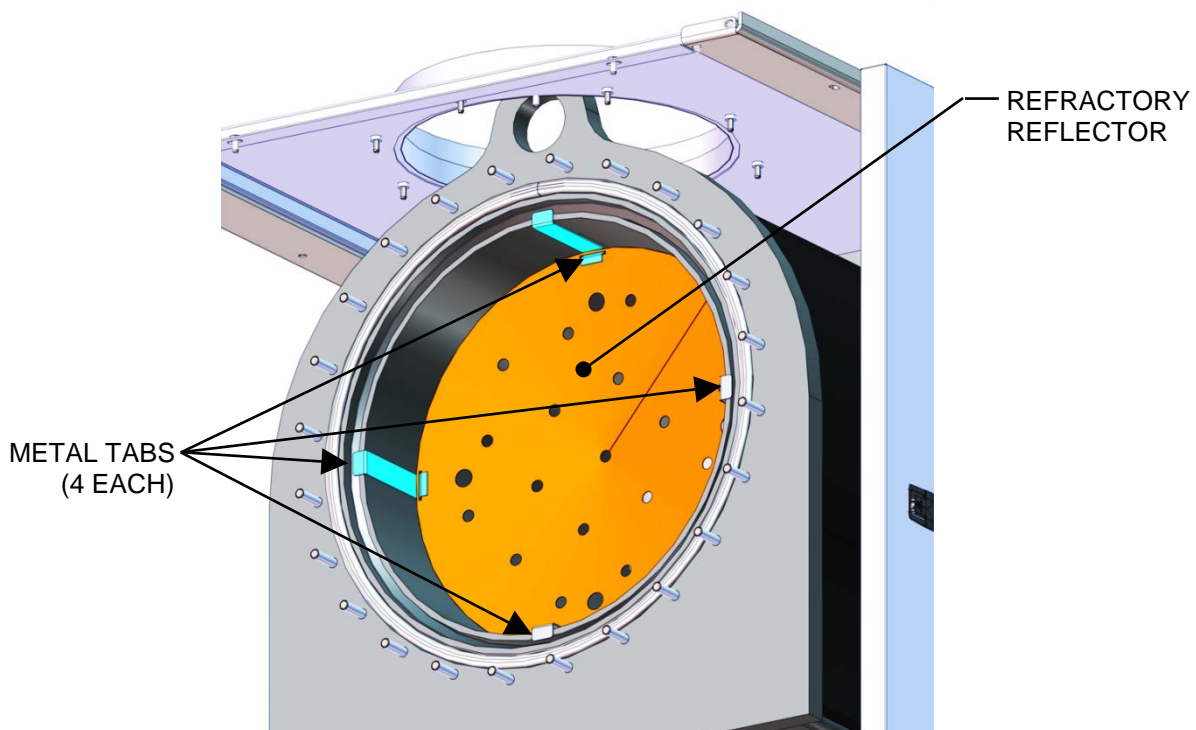

Figure 7-8. Partial View with Rear Plate and Refractory Removed
10. Refer to Figure 7-8 and note the position of the rear refractory. Prior to refractory removal, mark as necessary using a permanent marker or tape.